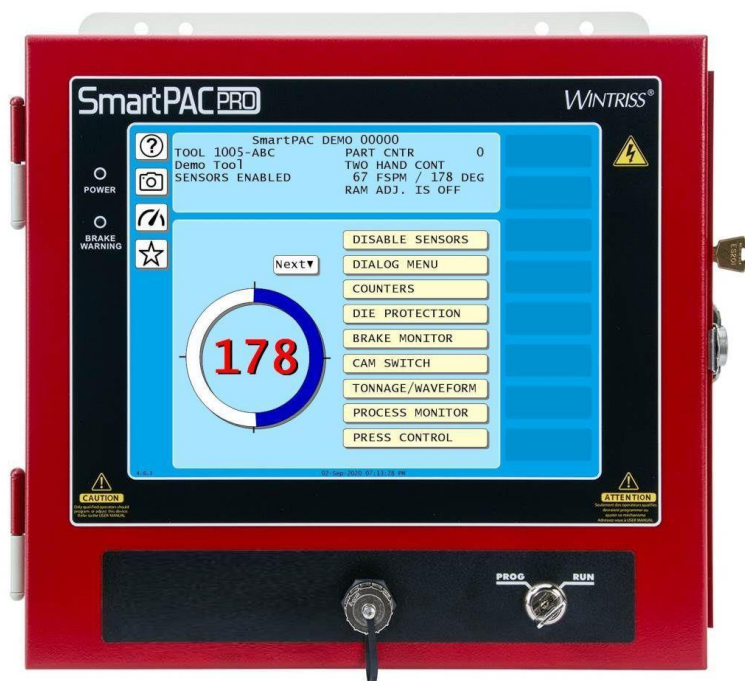
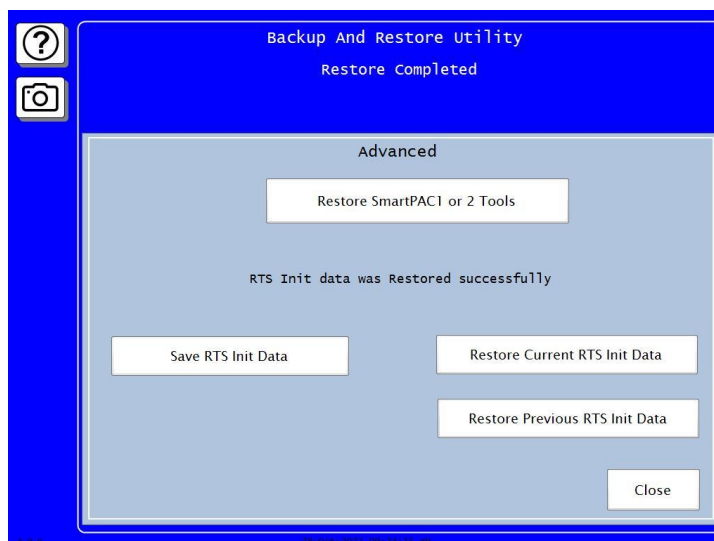

Figure 5. SmartPAC PRO Front Panel Showing USB Connector
Figure 14. Backup/Restore Control - Advanced Menu
1. Locate USB socket in the middle of the lower section of the SmartPAC PRO front panel (see Figure 5, below).
1. With the USB disk, onto which tools have been backed up, inserted in the USB socket (see Figure 5) and the Backup/Restore Control Menu (see Figure 10) displayed, press the “Restore” button.
1. With the USB disk, onto which tools have been backed up, inserted in the USB socket (see Figure 5) and the Backup/Restore Control Menu (see Figure 10) displayed, press the “Advanced” button. An Advanced options menu will appear (see Figure 14).